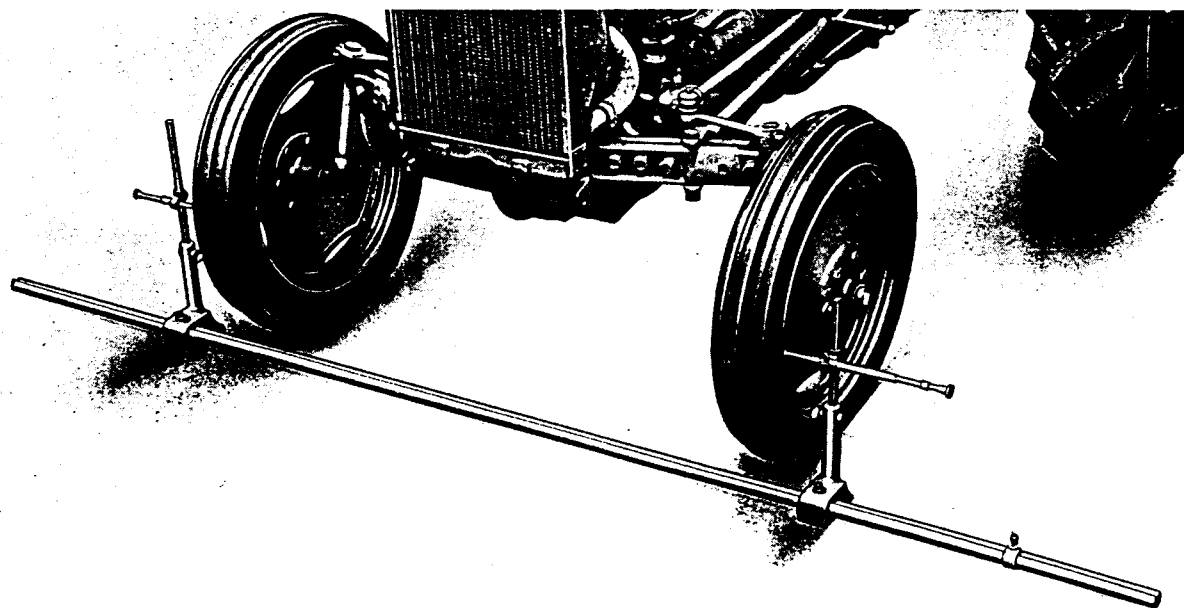

FIG. 12
This adjustment is facilitated if use is made of a fixture similar to the one illustrated in Fig. 12.
2. Mount gauging jig as shown in Fig. 12 first in front, then behind front wheels, with points contacting outside of wheel rims.